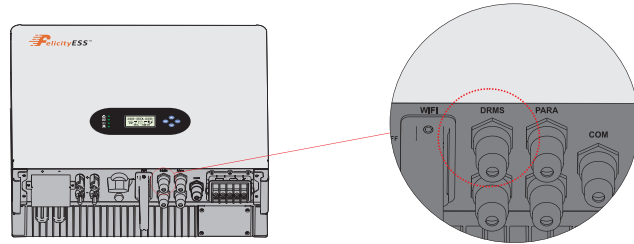

Figure 4.5-1 DRMS interface
Step 1. Screw this plate off from the inverter. See Figure 4.5-1.